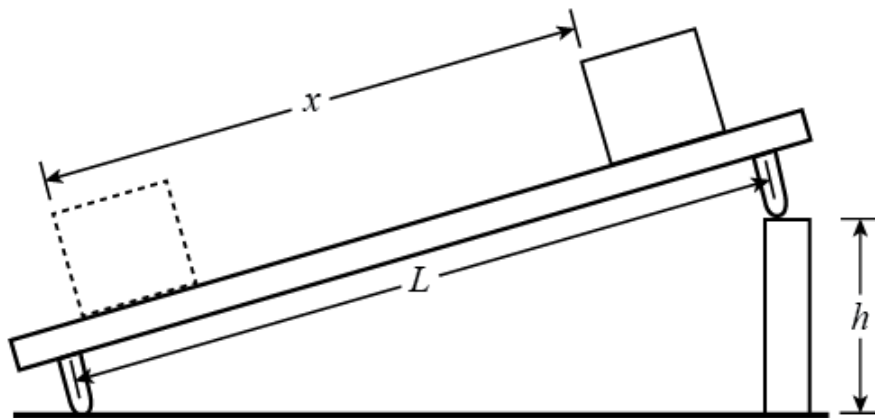

Figure 2: Experimental setup
The Introduction¹ for this experiment shows that for an object moving down an incline that is inclined at an angle, θ , with respect to the horizontal, the time, t , it takes the object to move a distance, x , along the incline is given by the equation $x = \frac{1}{2}(g \sin \theta)t^2$. The experimental setup is sketched in Figure 2. The figure shows that $\sin \theta = \frac{h}{L}$. This gives $x = \frac{1}{2}g \frac{h}{L}t^2$. Solving for g , we get
- 1 Refer to Figure 2. The distance, x , traveled by the cart will be determined by two pencil marks on the track that serve as starting and finishing lines **for the front end of the cart**. Measure and record the distance, x , between the two pencil marks that are on the track.